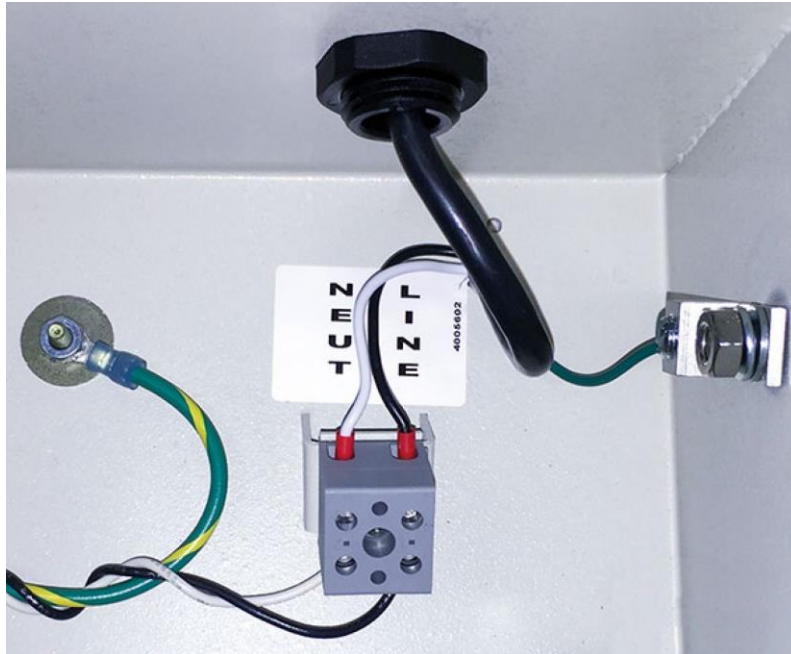

Figure 2-10. Wiring AC to Terminal Block, Inside Enclosure, Top Right
1. Find the AC terminal block at the top right corner of the back wall of the enclosure (see Figure 2-10).